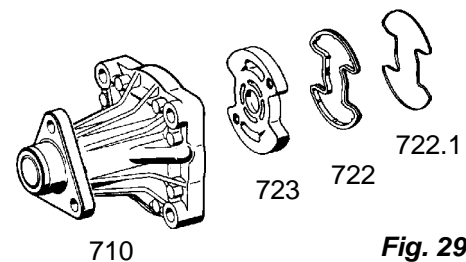

Fig. 29
Fit sealing ring (722) together with back-up ring (722.1) in the front plate (723) (**Fig. 29**).